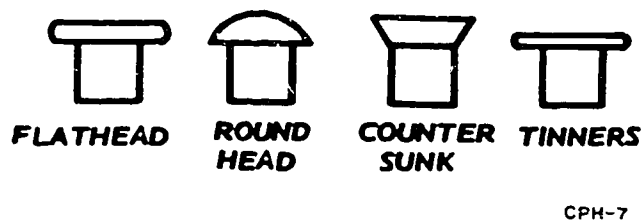

Figure 2-13. Typical rivet heads.
Rivets vary in the following respects: the kind of metal from which they are made, type of head, diameter, and length. Figure 2-13 illustrates some of the various shapes of rivet heads you may encounter. The rivet most often used in the sheet metal shop is the tinner's rivet; however, you may also use Monel, aluminum, and blind rivets of various shapes and styles.
**Tinner's Rivets.** As a sheet metalworker, you use tinner's rivets more than any other type. They are made of mild (soft) steel, are easily formed with a hand riveting set, and are usually tinned. The tinner's rivet illustrated in figure 2-13 is available in various diameters and lengths. The rivet sizes are identified according to the weight per thousand. For example, 1,000 of the smallest tinner's rivets (which are identified as 8-ounce rivets) weigh 8 ounces. Tinner's rivets are available in the following sizes: 8 oz, 1 lb, 1¼ lb, 1½ lb, 1¾ lb, 2 lb, 2½ lb, 3 lb, 4 lb, 5 lb, 6 lb, 7 lb, 8 lb, 10 lb, and 12 lb. You can see there are many sizes available; however, in the sheet metal shop, the sizes in the following list are used more than the others: